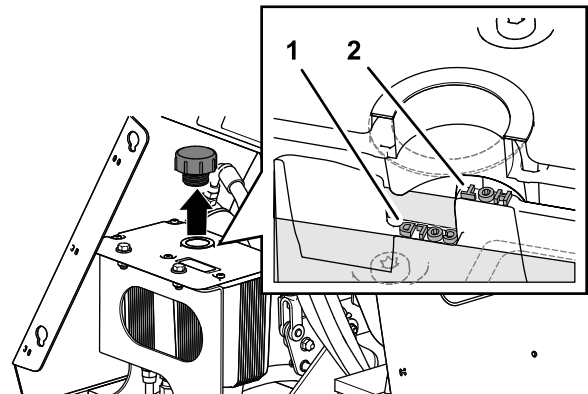

Figure 60
5. Clean the area around the hydraulic reservoir cap (**Figure 60**).
6. Remove the cap and check hydraulic-fluid level in the reservoir (**Figure 60**).
7. If necessary, add the specified hydraulic fluid to the reservoir until the fluid covers the **Cold** fluid level on the baffle (**Figure 60**).
- Replace the hydraulic reservoir cap and tighten it until it is snug (Figure 60).